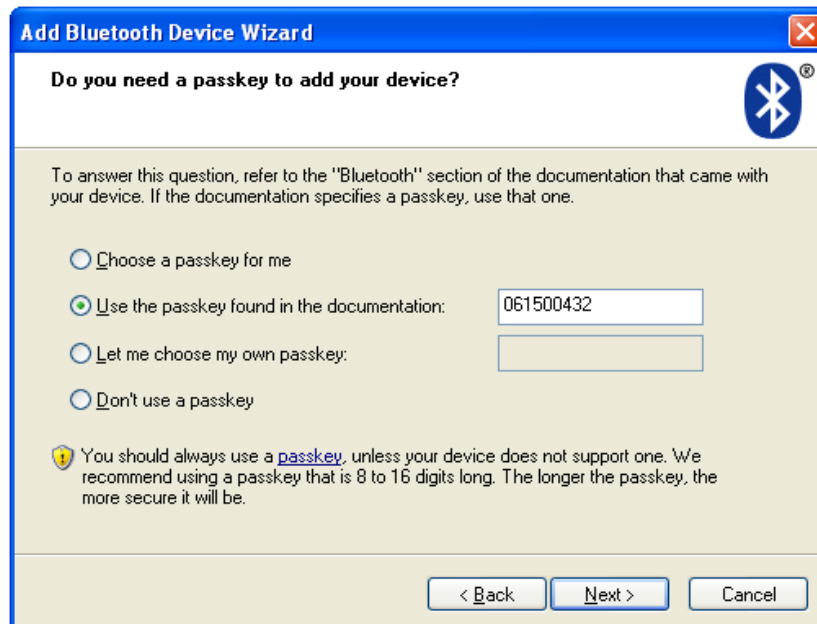

Fig. 3-6 Entering the passkey
3. Enter the passkey (Bluetooth PIN) (Fig. 3-6). The device is delivered with the PIN preset to the serial number given on the device. Confirm your entry with **Next>**.